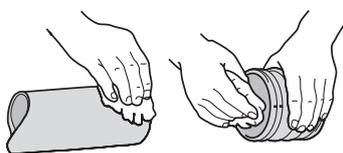

Fig.2a Preparing pipe
Step 1 – Cut pipe square, de-burr and clean mating surfaces with 9101 Cleaning Fluid (Fig.2a) using a dry, clean, natural fibre cloth (NOT synthetic)